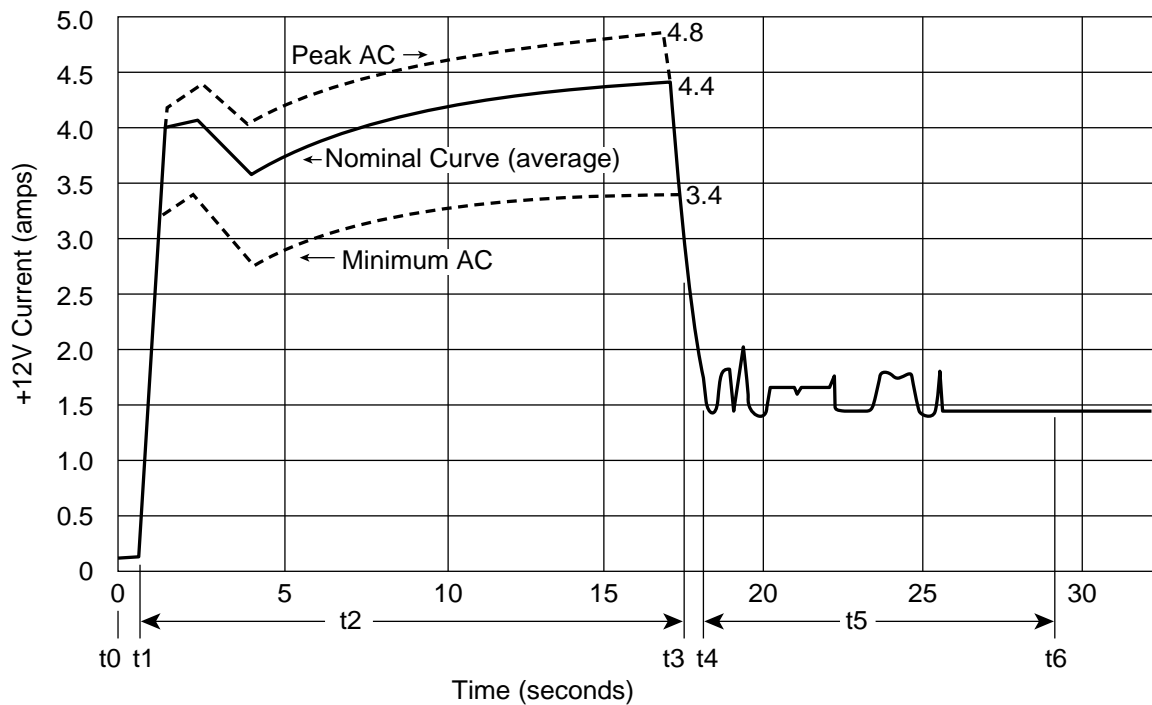

Figure 8. Elite 9 drive typical +12V current profile
- [3] See Figure 8.
Figure 8 identifies the drive's +12V current profile. The current during the various times is as shown.